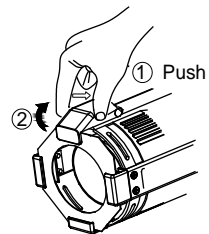

Figure 1
2. Remove the color frame from its holder. (Figure 1)